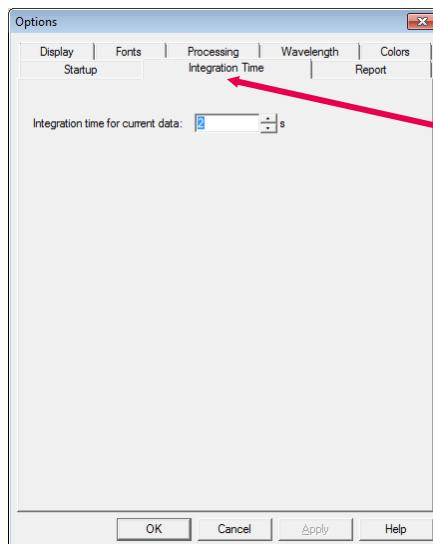

Fig. 5-55
- (4) The integration time for data reading is usually set at 2.0 seconds. To change the time, select the Options command from the Tools menu. In the Options window, select the Integration Time tab (refer to (5) in Fig. 5-55). A tab page as shown in Fig. 5-55 will appear to enable setting change.